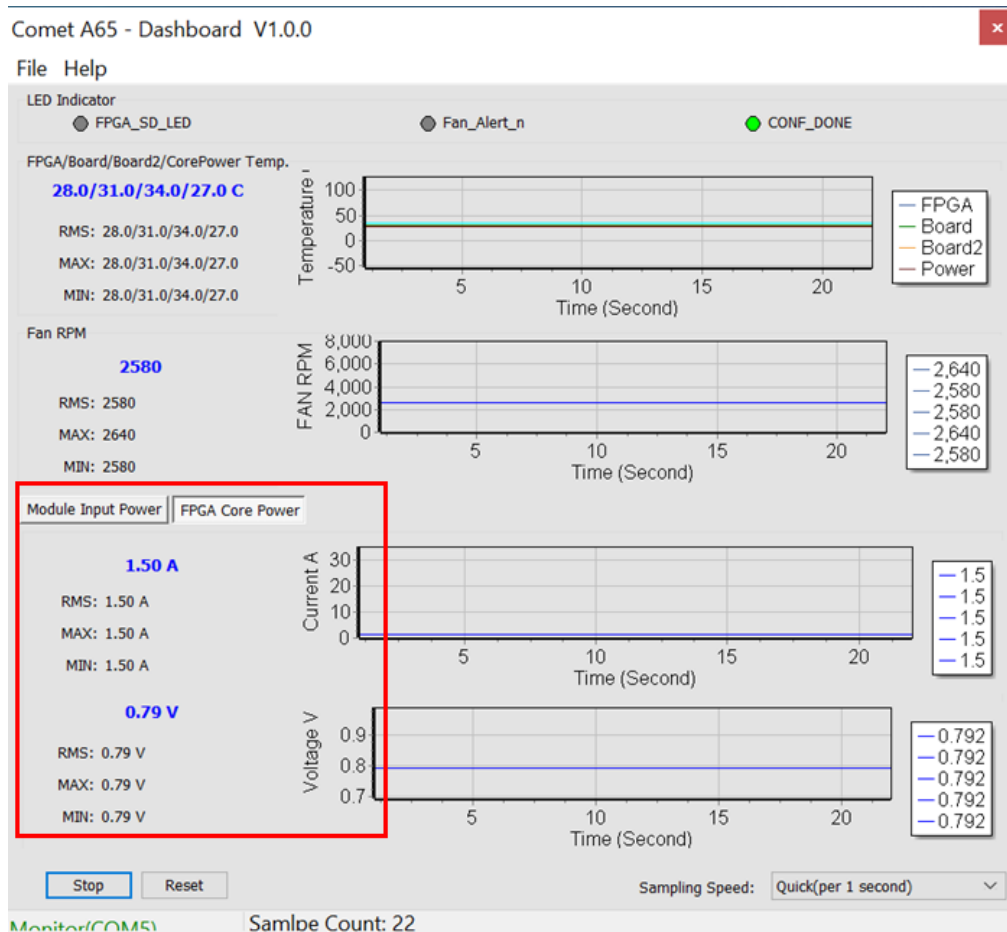

Figure 3-12 Power Monitor Section
- **Module Input Power / FPGA Core Power:** It displays the real-time Comet A65 SoM module input and FPGA Core Power voltage and consumption current on the Comet A65 SOM Evaluation Kit, as shown in **Figure 3-12**.